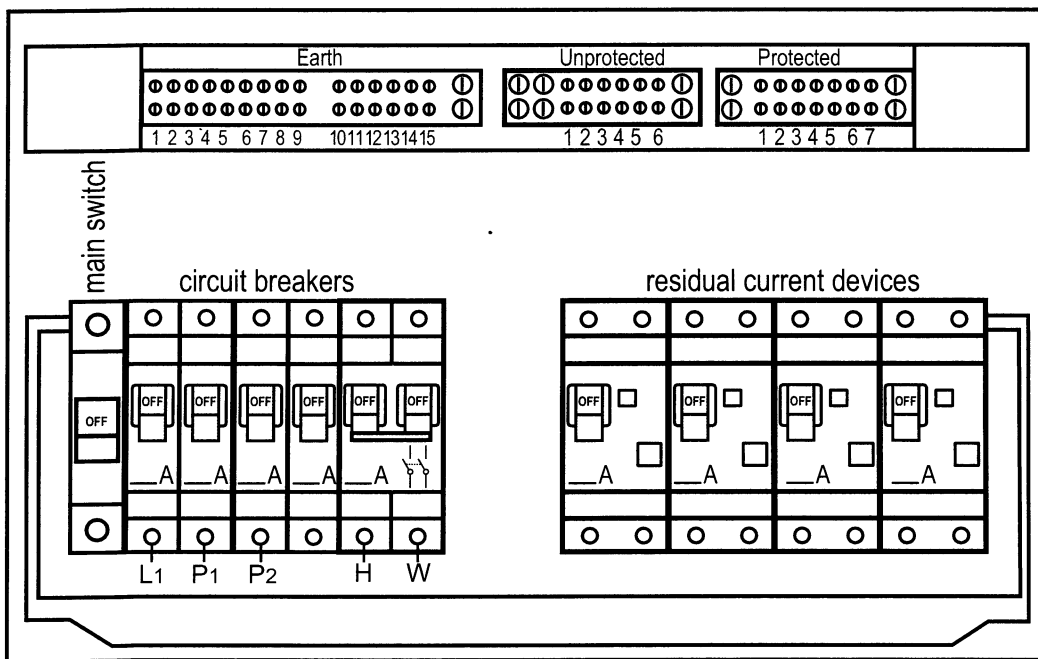

Figure 4.6 Two-pole RCDs protecting light and power circuits
2. The equipment shown in Figure 4.6 is for a switchboard in a domestic installation. Show on the diagram the necessary Active, Neutral and Earth connections for the following: